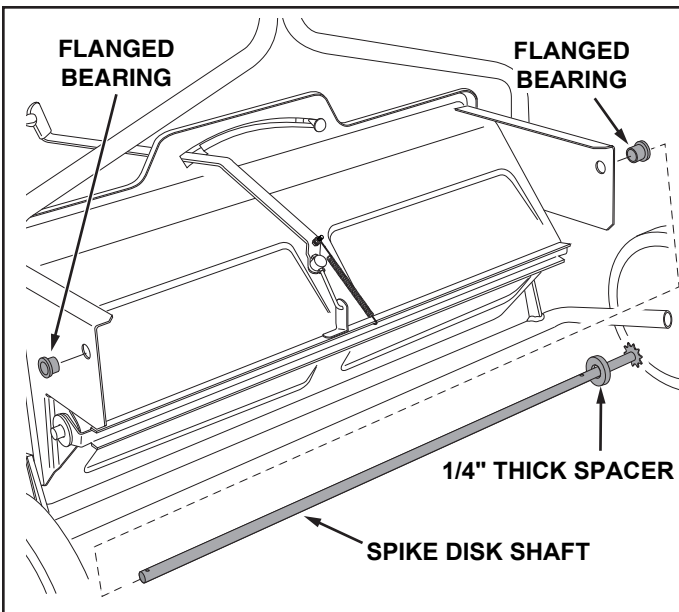

FIGURE 13
- Press flanged bearings into both of the end plates. See figure 13.
- **Place the 1/4" thick spacer onto the spike disk shaft** and then insert the shaft through the flanged bearing in the left hand end plate. See figure 13.